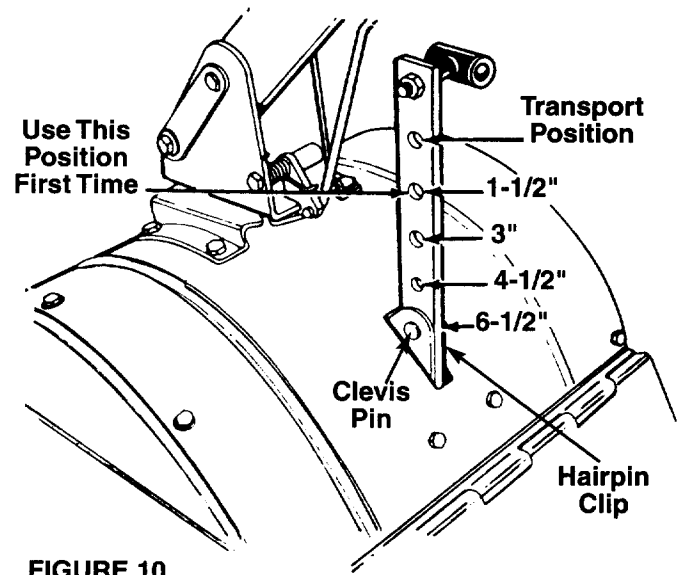
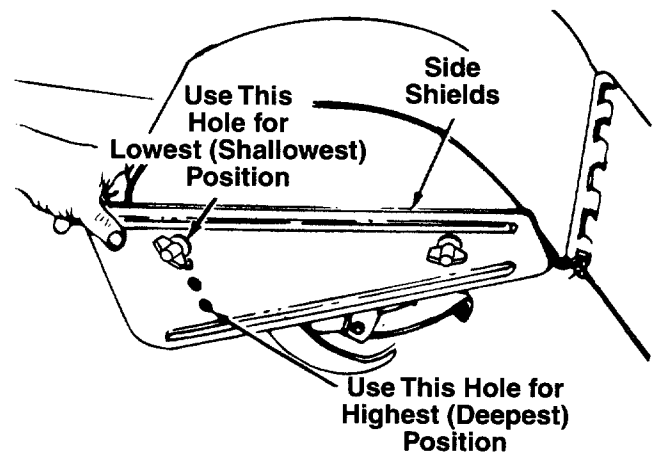

FIGURE 10.
FIGURE 11.
WARNING: When operating the tiller for the first time, use the depth stake setting that gives 1-1/2 inches of tilling depth (second hole from the top). Refer to figure 10.
Tilling depth is controlled by the depth stake which can be adjusted to five different settings. See figure 10. Adjust the side shields as shown in figure 11, as you adjust the depth stake. Be certain spark plug wire is disconnected and grounded against the engine.
1. When using the tiller for the first time, use the second adjustment hole from the top (1-1/2" of tilling depth). See figure 10.
To adjust the depth stake, remove the clevis pin and hairpin clip. See figure 10. Move the depth stake to the desired setting.
To adjust the side shields, remove the wing nuts. See figure 11. Move the side shield to the desired position. Replace the wing nuts. Tighten securely.